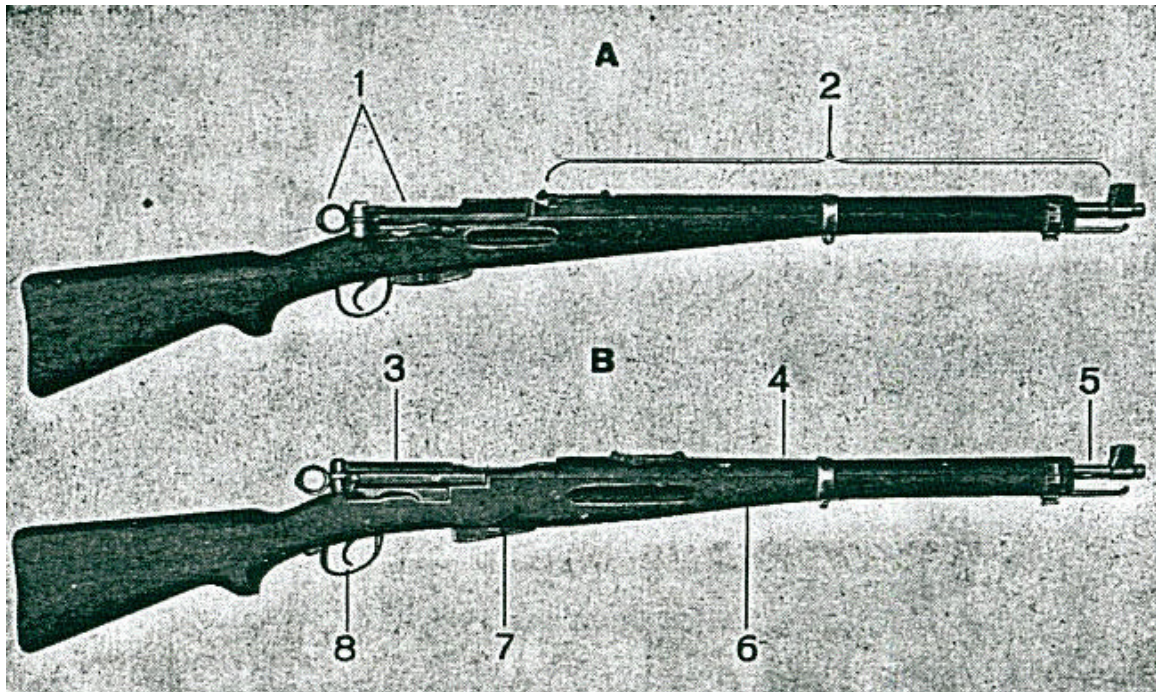

Fig. 1
- The Stock (fig.1) with the hand guard and fittings. (fig. 14)